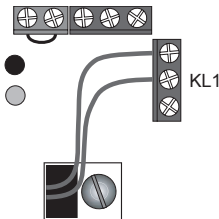

Figure 4
- Attach the connection cable for the bolt switching contact with the 'KL1' (A) terminal. See figure 4.